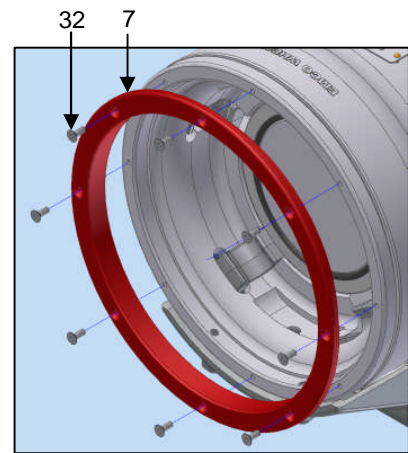

Fig. 24
31. Undo the 8 screws (32) on the front of the coupler using a 2.5mm allen key. (Fig. 24)
32. Remove the nose ring (7) and discard. If the nose ring is difficult to remove, use a screwdriver to lever the ring off. (Fig. 24)
33. Replace nose ring and fit new retaining screws. Use one drop of a medium strength thread locking compound such as loctite 241/2/3, on each screw. (Fig. 24)